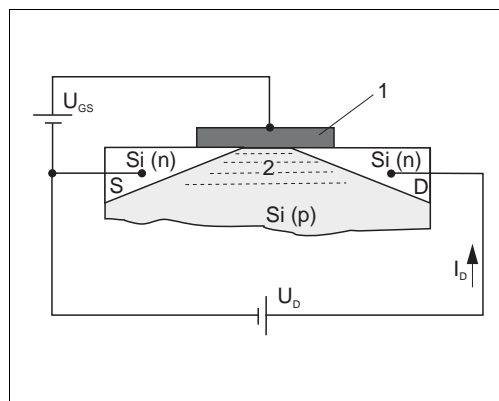
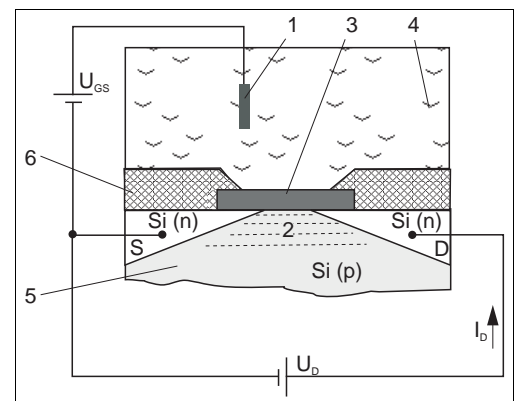

Fig. 1: Principle MOSFET
Fig. 2: Principle ISFET
Ion-selective field effect transistors use an MOS1) transistor arrangement (→ Fig. 1) where the metallic *gate* (pos. 1) is not a control electrode. Instead, the medium (→ Fig. 2, pos. 3) in the ISFET is in direct contact with the gate isolator layer (pos. 2). Two strongly N-conducting areas are diffused in P-conducting substrate (→ Fig. 2, pos. 5) of the semiconductor material (Si). These N-conducting areas are current supplying ("Source", S) and current accepting ("Drain", D) electrodes. The metallic gate electrode (in case of the MOSFET) resp. the medium (in case of the ISFET) forms a capacitor with the substrate below. A potential difference between gate and substrate ( $U_{GS}$ ) causes a higher electron density between "Source" and "Drain". A N-conducting *channel* (pos. 2) is formed, i.e. a drain current ( $I_D$ ) is induced.